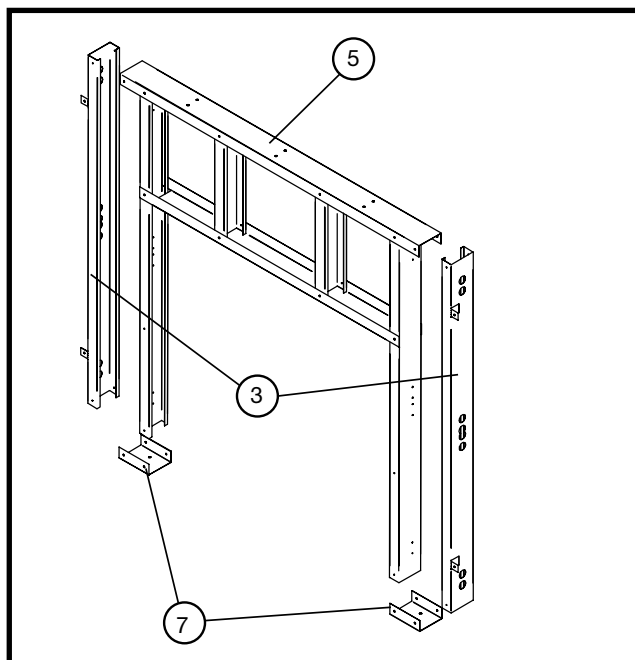

Figure 14: Side stud placement.
Attach the outer side studs (3) to the top of the header stud (5) (Figure 14).